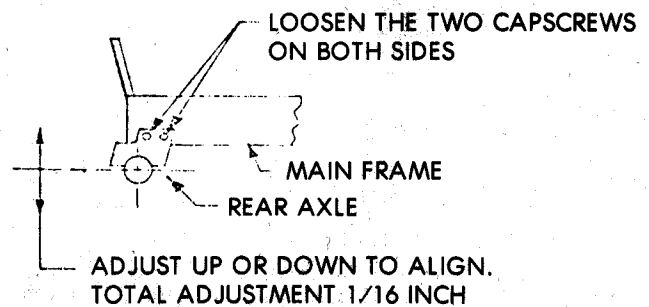

FIGURE 1
1. P.T.O. shaft too high or too low adjust rear axle as follows: Loosen the four bolts holding the rear axle to the frame. Adjust rear axle up or down to align P.T.O. shaft and retighten bolts. See Figure 1.